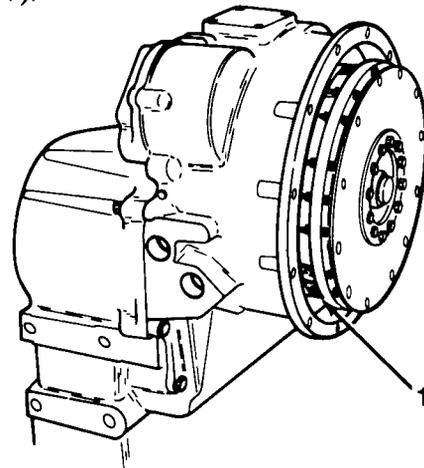
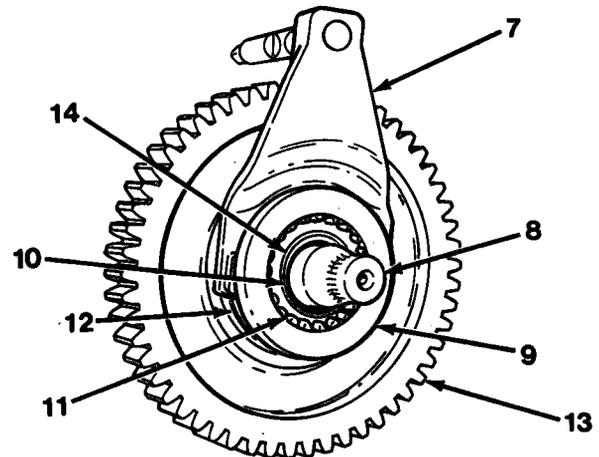

Figure 11-1
Figure 11-2
1. Remove O-ring (1, Figure 11-1).
2. Remove shim pack (2) from output cap (3).
3. Remove two capscrews (4) and pan baffle (5).
4. Remove two roll pins (6) from output cap (3) and fork (7).
5. Remove output shaft (8) with fork (7), shift collar (9), three detent balls (10), springs (11), snap ring (12), gear (13) and cone of bearing (14, Figure 11-2) as an assembly.